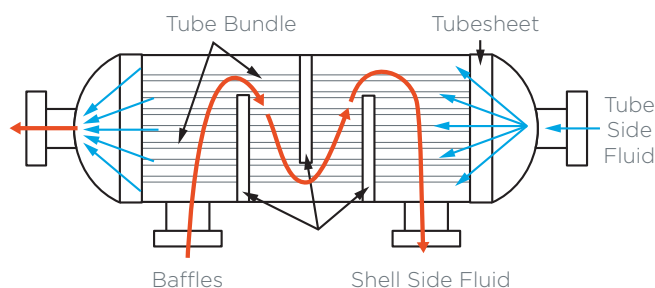

Figure 10. Shell and Tube Heat Exchanger
**Tubular heat exchanger.** Tubular heat exchangers are tube bundles that are surrounded by the heated or heating medium. This type of heat exchanger includes finned tube and shell and tube designs as shown in Figure 10. Finned tube heat exchangers are often used to heat air for drying and space heating applications. Shell and tube heat exchangers are often used for liquid heating and evaporation. Since the tube side of shell and tube heat exchangers can be designed to withstand high pressures, sometimes exceeding 1,500 psig, heat exchangers of this type are often used in high-temperature and high-pressure applications.